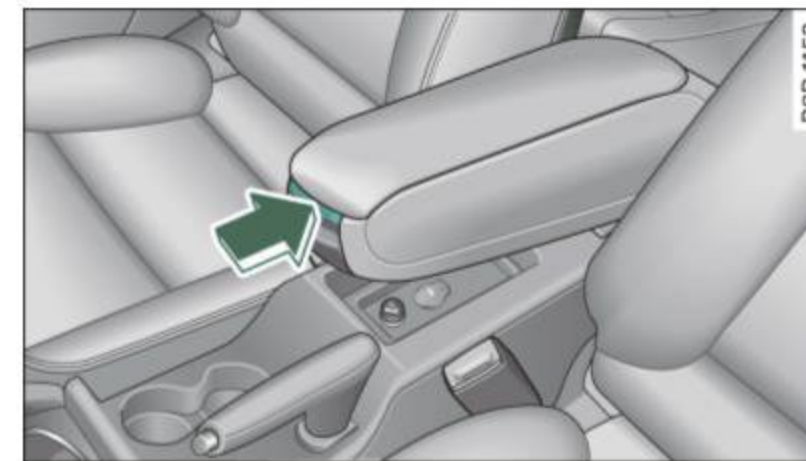

Fig. 100 Between the front seats: armrest folded down
- Pull the release button ⇒ fig. 100 upward. ►